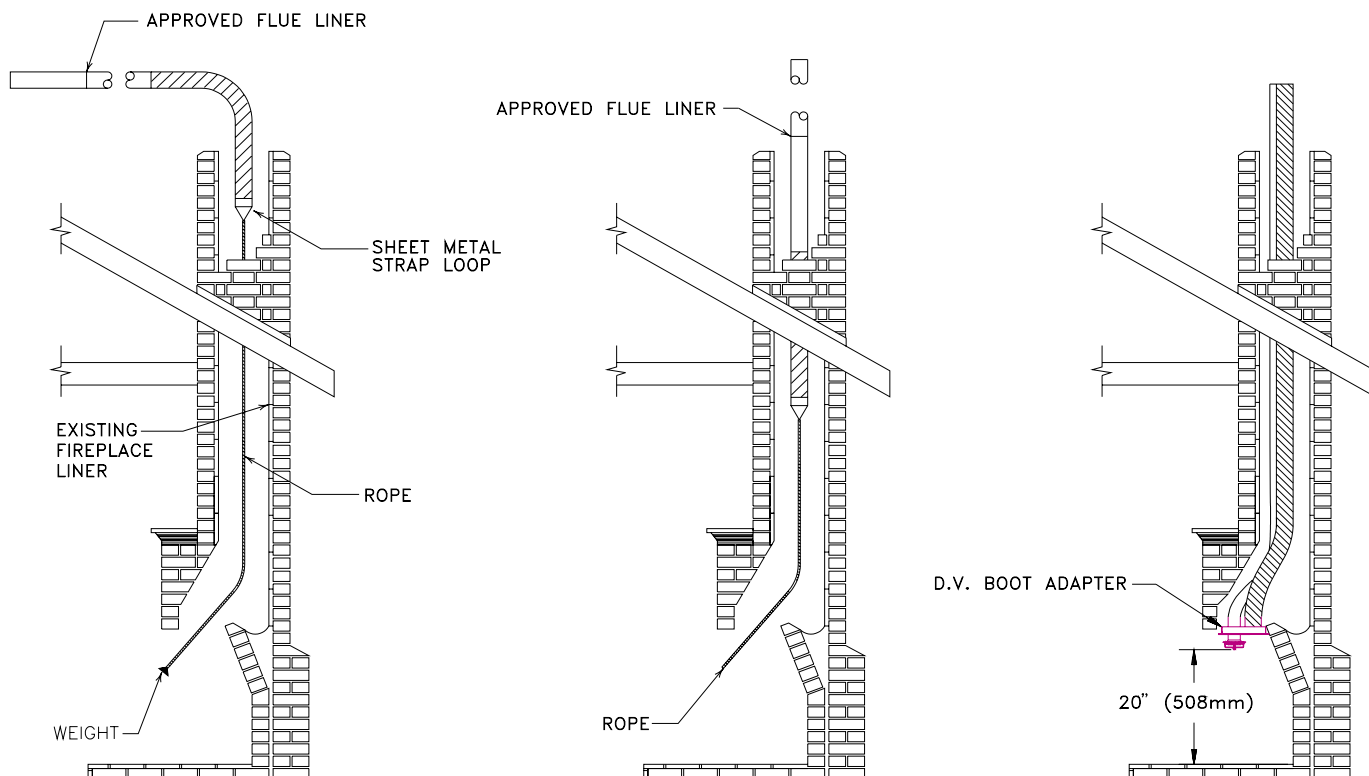

FIGURE 5
12. Attach a sheet metal strap loop to the flex end of the liner(s) and tie a rope to it. Two installers should proceed to the roof and drop the rope (with weight on the end to make sure it goes all the way down) and insert the liner(s) past the flexible portion, into the existing chimney [See FIGURE 5].
13. One installer should then return to the fireplace opening and pull the rope to guide the liner(s) into place through the smoke shelf and the damper opening to a point 20" (508 mm) above the fireplace hearth [See FIGURE 5]. It may be necessary for the person on the roof to turn the liner slightly to avoid mortar chunks and misaligned tiles. The person below should wear leather gloves and Safety Glasses during this process to avoid being cut and to safeguard eyes from flying debris.